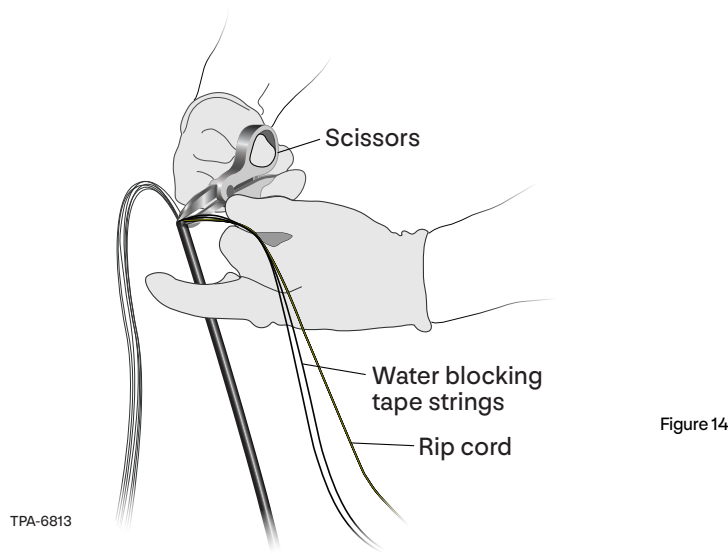

Figure 14
Step 6: Trim off rip cord and water blocking strings (Figure 14). Access is now complete.